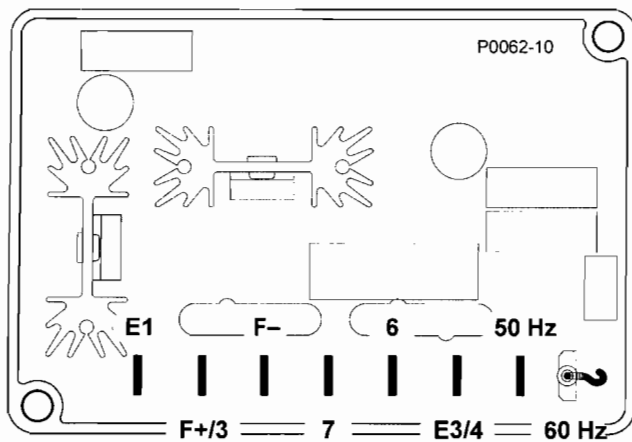
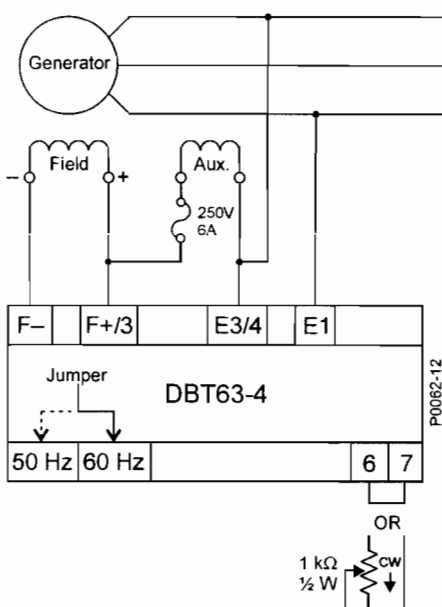

Figure 6. DBT63-4 Terminals
Figure 7. Typical Connections
DBT63-4 terminals (Figure 6) consist of quarter-inch, quick-connect tabs. Amp 154718-3 (positive-lock receptacle) or Amp 154719-1 (nylon housing) connectors are recommended for use with these terminals. Typical connections are illustrated in Figure 7.
4. Install the fuses as shown in Figure 7.